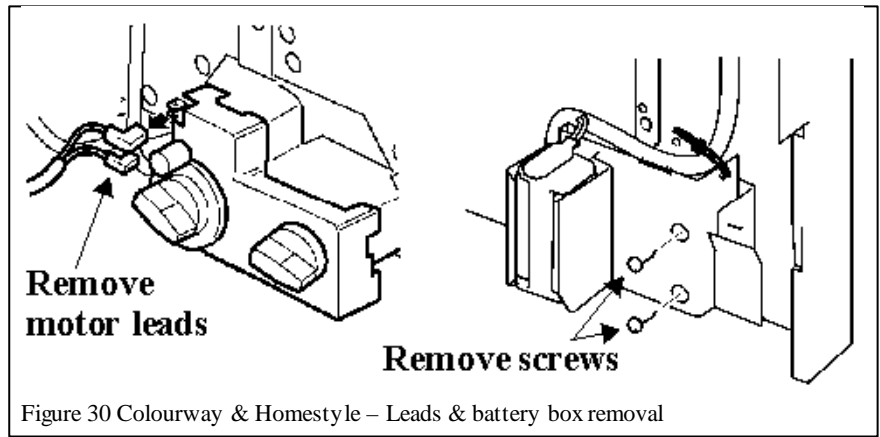

Figure 30 Colourway & Homestyle – Leads & battery box removal
- Colourway & Homestyle only: Disconnect the two motor leads from the top left of the gas valve. See figure 30.
- Colourway & Homestyle only: Detach the battery box from the fire unit by removing two screws. See figure 30.